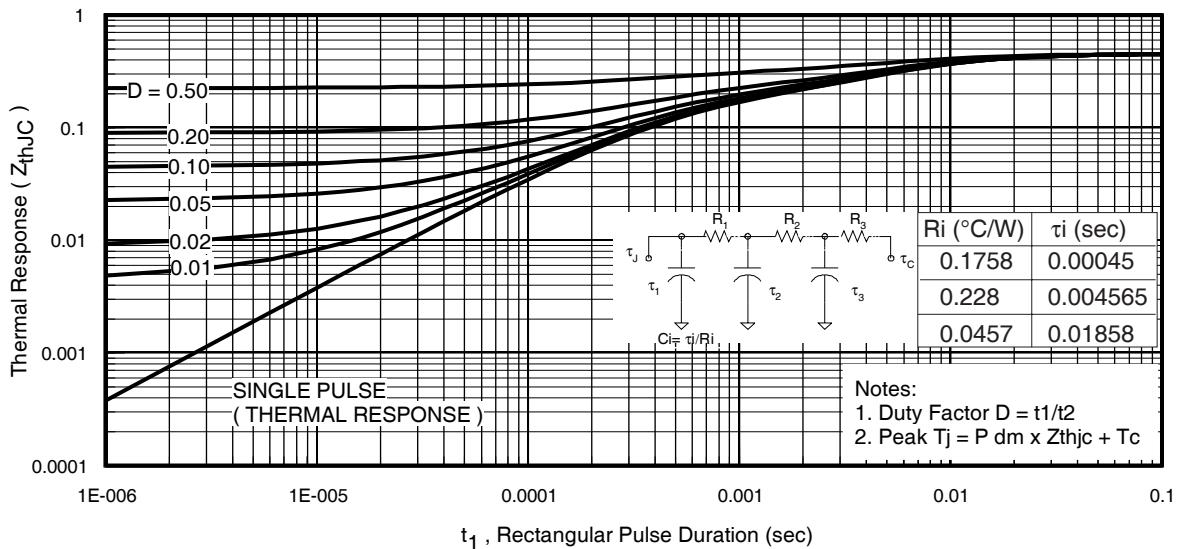
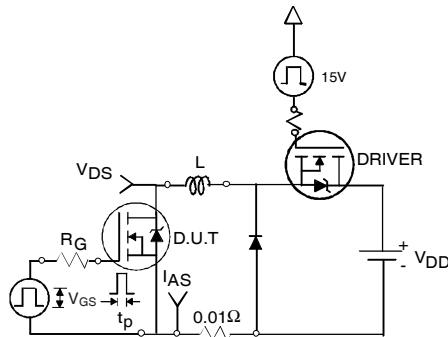

Fig 11. Maximum Effective Transient Thermal Impedance, Junction-to-Case
Fig 12a. Unclamped Inductive Test Circuit
- ① Repetitive rating; pulse width limited by max. junction temperature. (See fig. 11).
- ② Limited by $T_{J\text{max}}$, starting $T_J = 25^\circ\text{C}$, $L = 0.17\text{mH}$ ⑤ $R_G = 25\Omega$, $I_{AS} = 75\text{A}$, $V_{GS} = 10\text{V}$. Part not recommended for use above this value.
- ③ Pulse width $\leq 1.0\text{ms}$; duty cycle $\leq 2\%$.
- ④ $C_{\text{oss eff.}}$ is a fixed capacitance that gives the same charging time as C_{oss} while V_{DS} is rising from 0 to 80% V_{DSS} .
- ⑤ Limited by $T_{J\text{max}}$, see Fig.12a, 12b, 15, 16 for typical repetitive avalanche performance.
- ⑥ This value determined from sample failure population. 100% tested to this value in production.
- ⑦ R_θ is measured at T_J of approximately 90°C .
3. Equation below based on circuit and waveforms shown in Figures 12a, 12b.
$Z_{thJC}(D, t_{av})$ = Transient thermal resistance, see figure 11)